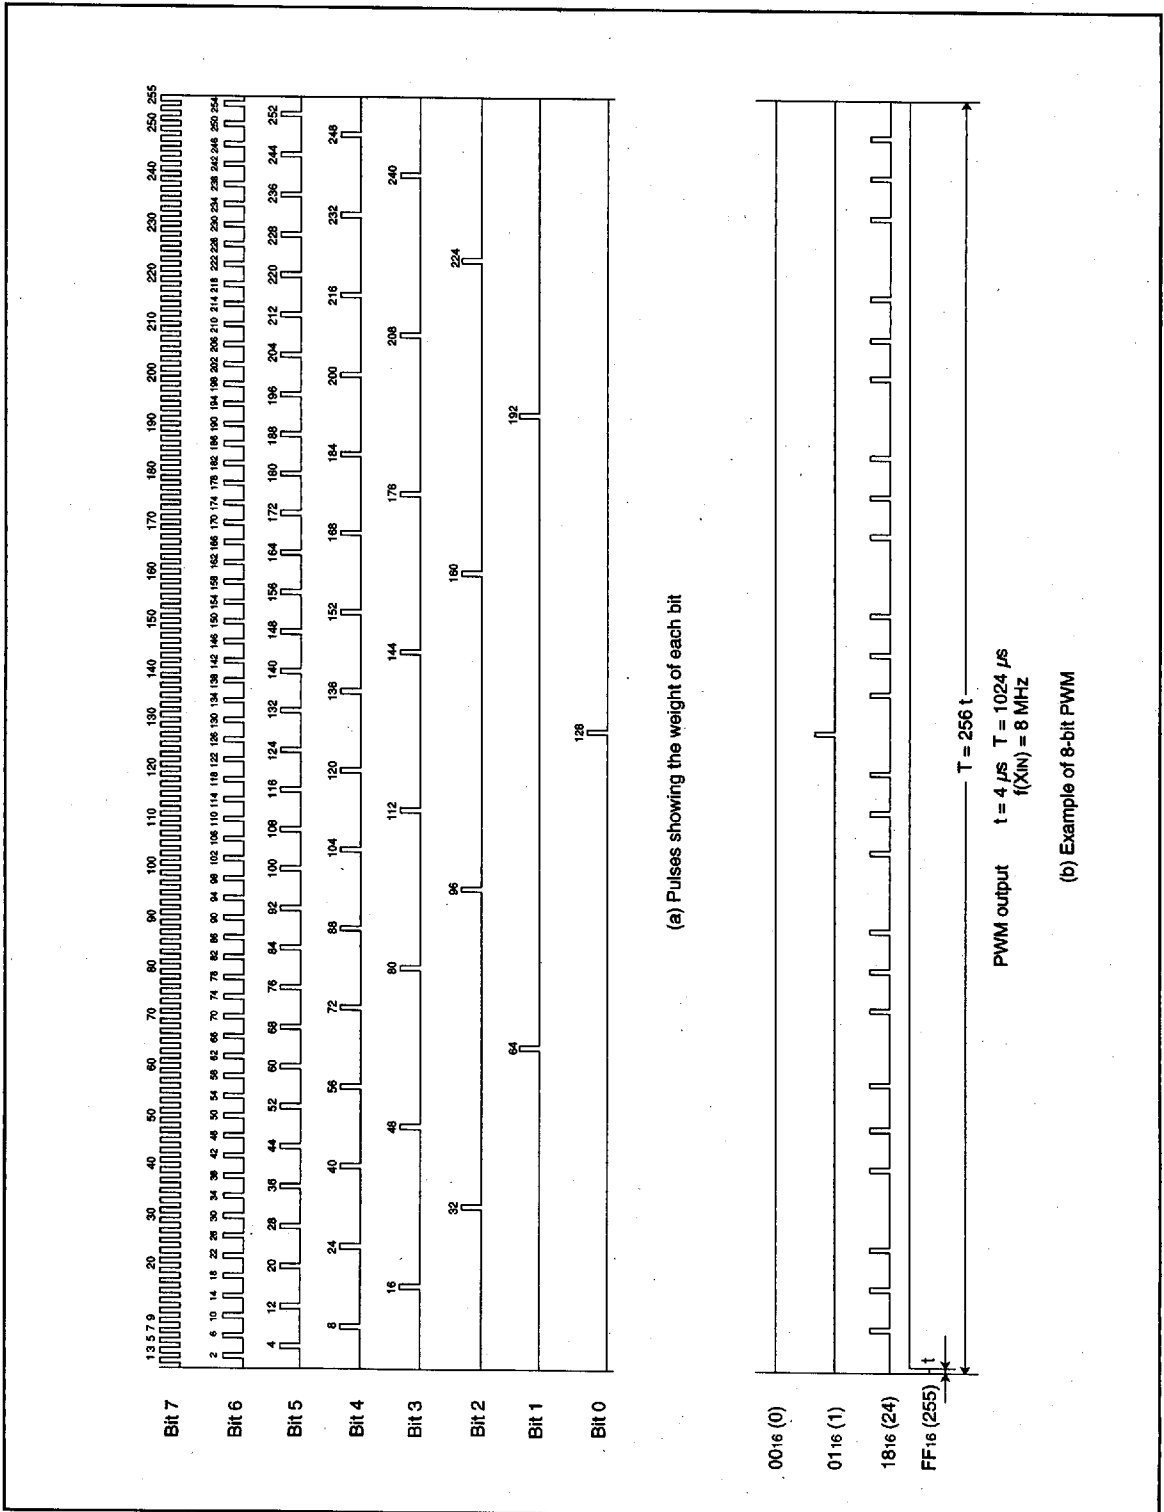

Fig. 13. 8-bit PWM timing
Figure 13 shows the 8-bit PWM timing. One cycle (T) is composed of 256 (2^8) segments. The 8 kinds of pulses relative to the weight of each bit (bits 0 to 7) are output inside the circuit during 1 cycle. Refer to Figure 13 (a). The 8-bit PWM outputs waveform which is the logical sum (OR) of pulses corresponding to the contents of bits 0 to 7 of the 8-bit PWM register. Several examples are shown in Figure 13 (b). 256 kinds of output ("H" level area: 0/256 to 255/256) are selected by changing the contents of the PWM register. A length of entirely "H" output cannot be output, i.e. 256/256.
(4) Output after Reset